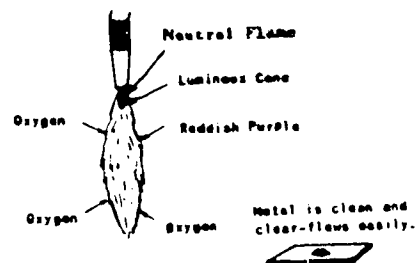

Figure 5-19. Neutral Flame
----- NEUTRAL FLAME. When the oxygen and acetylene are equally mixed, a neutral flame results (see Figure 5-19). A neutral flame is usually used for welding and cutting.